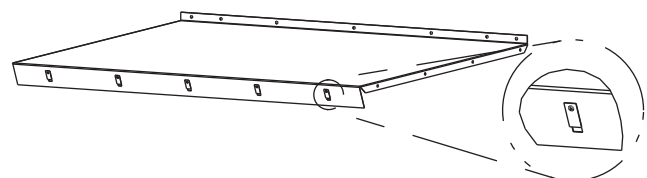

Fig. 22 — Top Hood with Speed Clips
4. Attach speed clips (provided) to hood top. Engagement section of the clip faces inside hood. See Fig. 22 for clip locations.